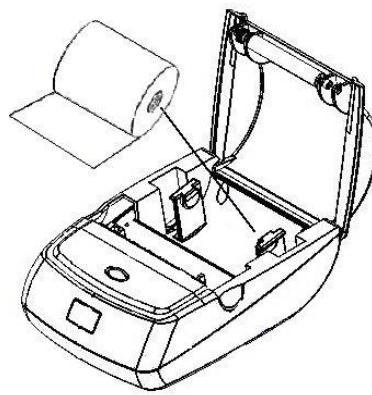

Figure 50
2. Insert the new paper roll. Be sure to note the correct direction that the paper comes off the roll as shown (Figure 50).